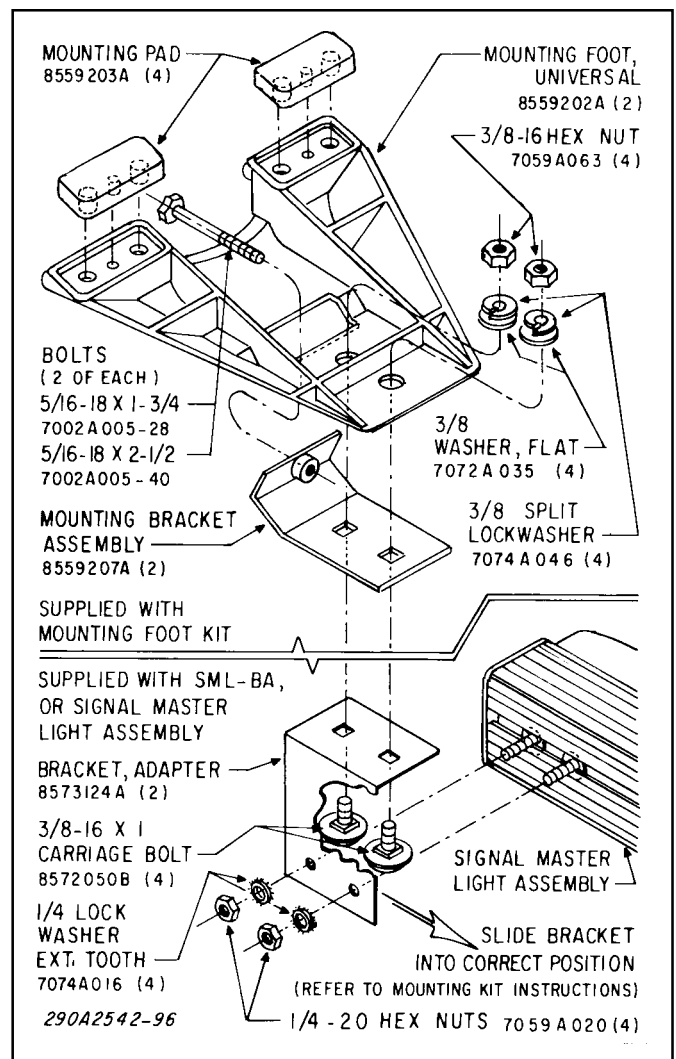

Figure 1.
1. Insert the 3/8-16 x 1" carriage bolts (supplied with the universal mounting kit) in the adapter bracket as shown in figure 1.
2. See figure 1. Assemble the adapter brackets to the SignalMaster using the 1/4-20 carriage bolts
3. Insert the two (2) rubber mounting pads into each plastic mounting foot as shown in figure 1. To allow easy insertion of the rubber pads, wet the rubber mounting pad's center nipple.
4. See figure 1. Secure each mounting foot to the SignalMaster/adapter bracket assembly using the